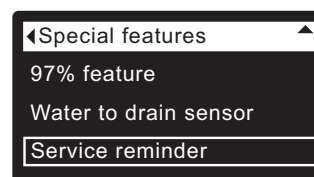

FIG. 93
1. From any of the rolling status screens, press the SELECT (O) button to display the **Main menu**.
3. Press the SELECT (O) button to display the Advanced settings menu.
5. Press the SELECT (O) button to display the Special features menu (See Figure 93).
9. Press the SELECT (O) button. The display will go back to the Special features menu (Figure 93).